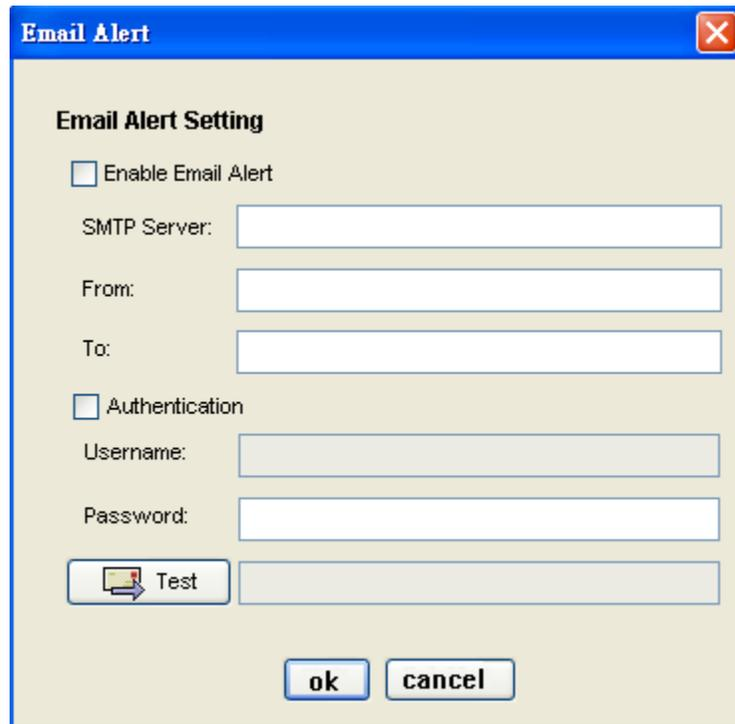

Figure 12-3
- **Email:** displays an “Email-Alert Settings” dialog box (see Figure 12-3). Fill the “SMTP server”, “From (email address)” and “To (email address)” fields. The “From” and “To” addresses must be valid in the SMTP server. If the SMTP server requires authentication, please enter the username and password. Once entering needed information, click the **Test** button to verify if your email works properly.